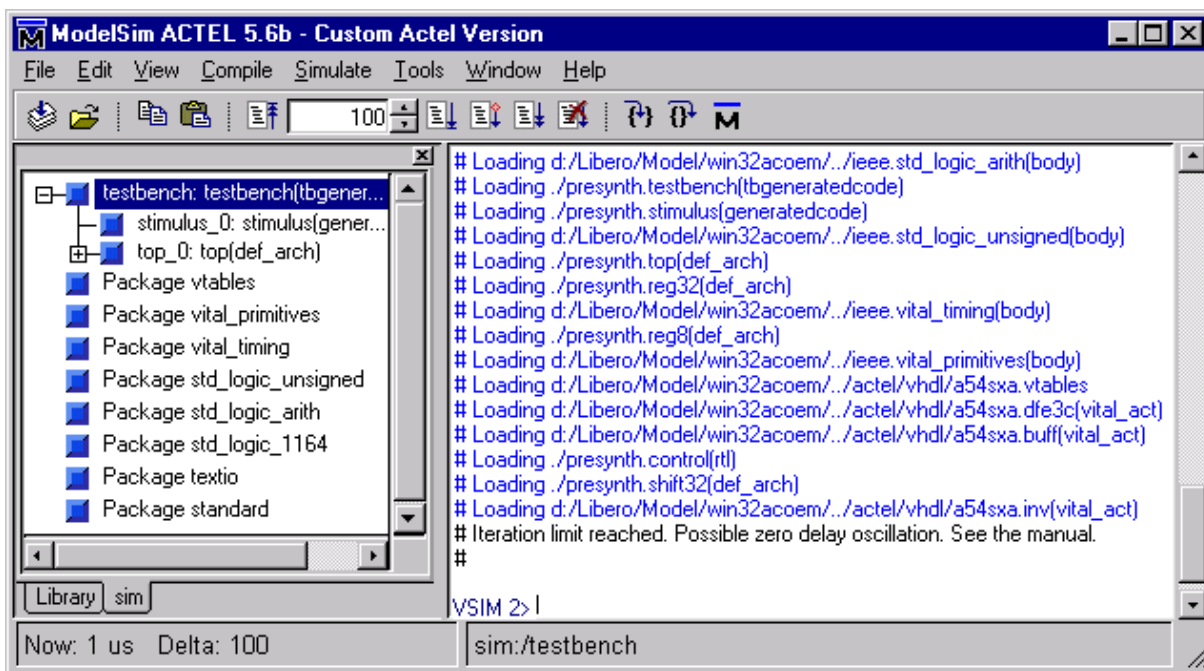

Figure 26 - ModelSim for Actel main window after compiling top
2. The ModelSim for Actel Simulator will open and compile the source files (Figure 26).